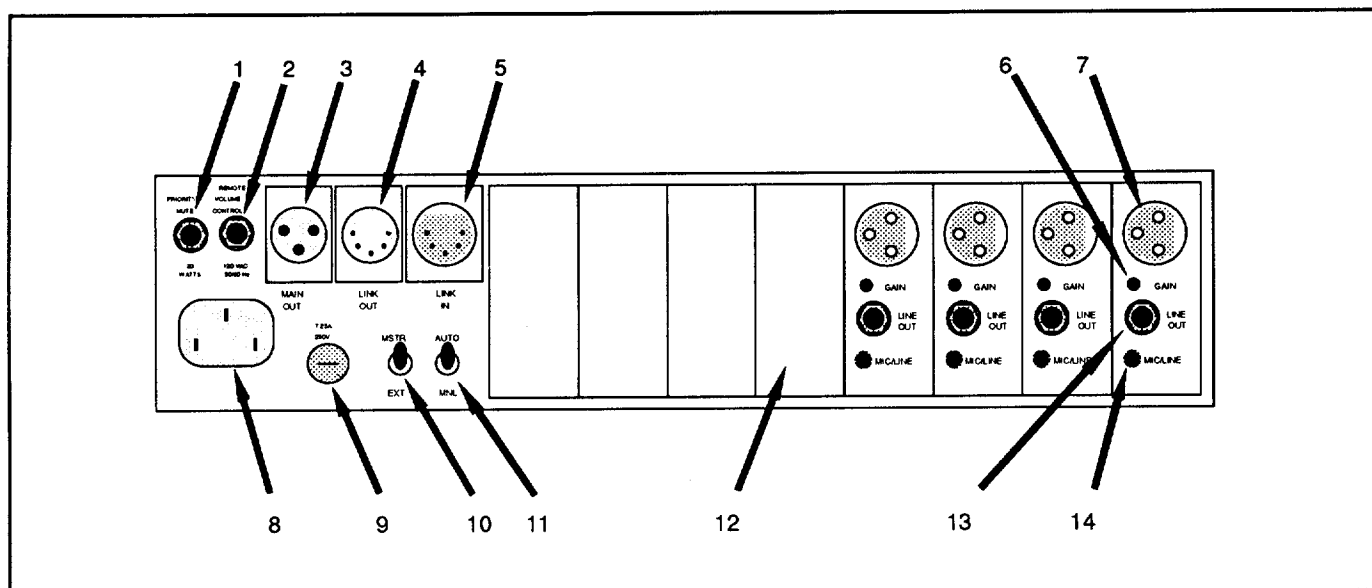

Figure 7: Rear Panel Features.
3.2 Rear Panel Features (Refer to Figure 7.)